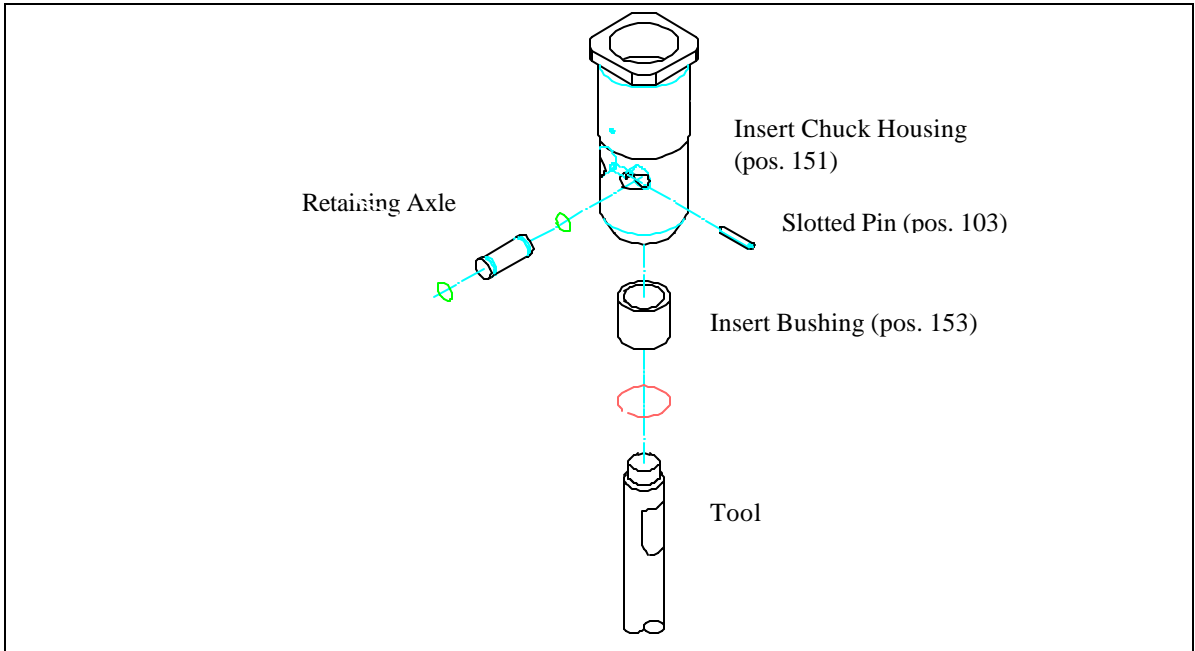

Figure 05-09: Check and Unlock Retaining Axles
(Figure 05-09)
- The retaining axles are held in with a slotted pin and require a hammer and a roll pin punch to drive the slotted pin (Position 103) out of the Insert chuck housing. (Figure 05-09)
- Drive pin (pos.103) in one direction to clear the end of the retaining axle below it.